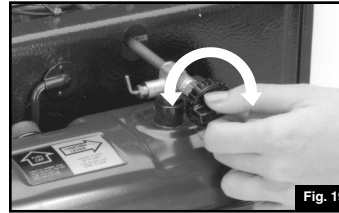

Fig. 19
- Adjust flame to desired heat with FUEL VALVE. (Fig. 19)